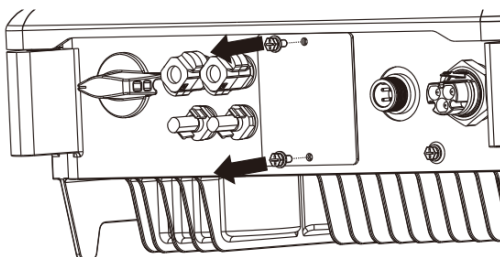

Fig. 26: Removing protective cover
2. Remove the cover plate from the bottom of the housing. (See Fig. 26)